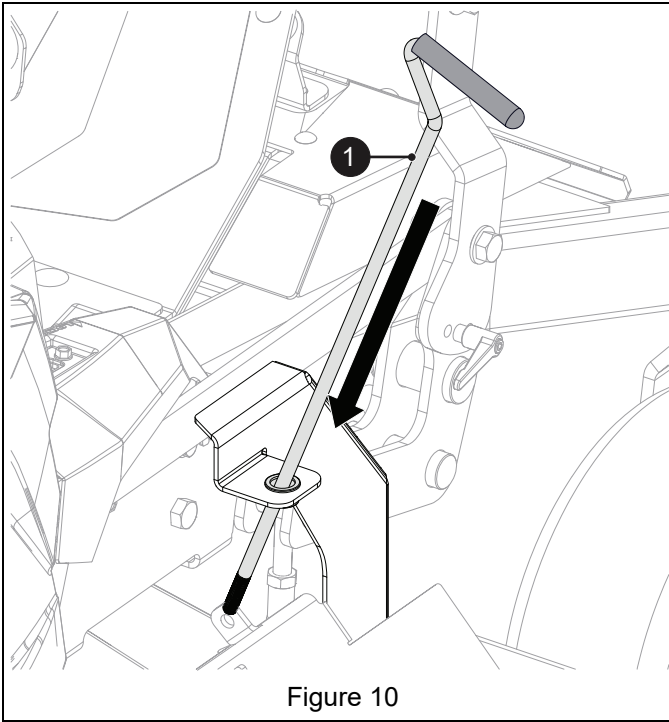

Figure 10
10. Insert handle assembly (item 1) through bracket and bushing. See Figure 10.